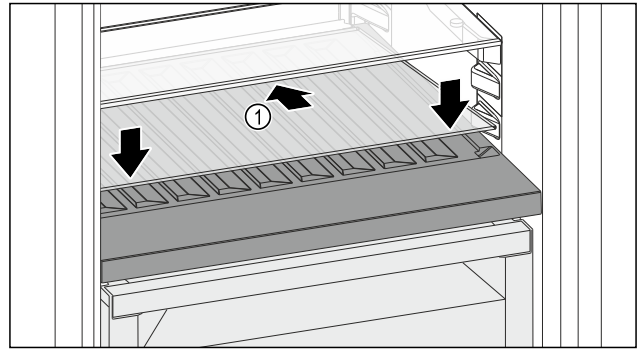

Fig. 164
- Place the glass shelf Fig. 164 (1) at an angle, sloping it downwards and backwards.
- Lower the glass shelf Fig. 164 (1) at the front.